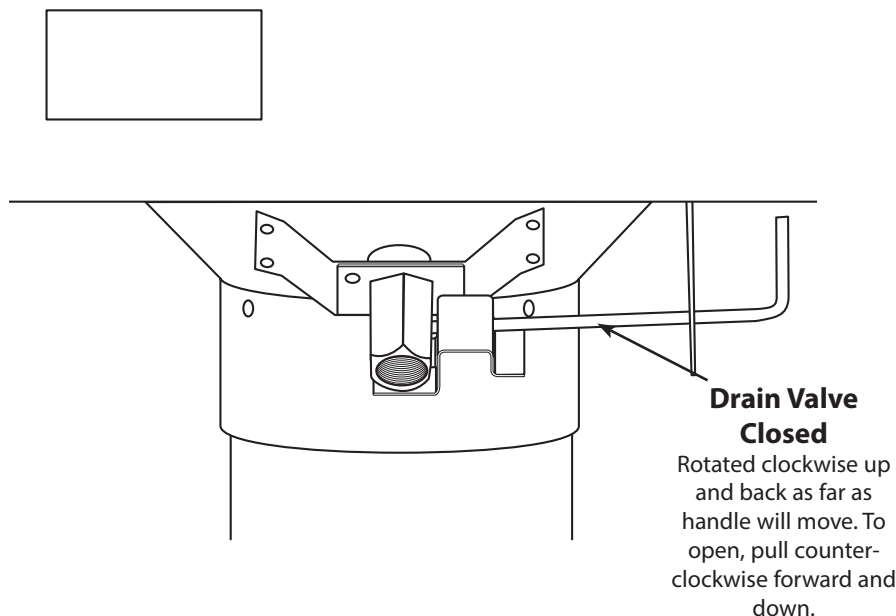

FIGURE 3 - Some features have been omitted to show greater detail.
4. **Check Collector and Drain Valve** - Make sure collector with gasket is seated and drain valve is closed (handle forward – see Figure 3). Always place lifting loop in front. This will allow the collector to be removed with ease.